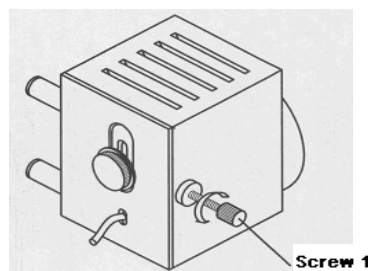

Figure 6-3 Loosen the Screw
1. Turn screw 1 counterclockwise to loosen it. Refer to Figure 6-3.